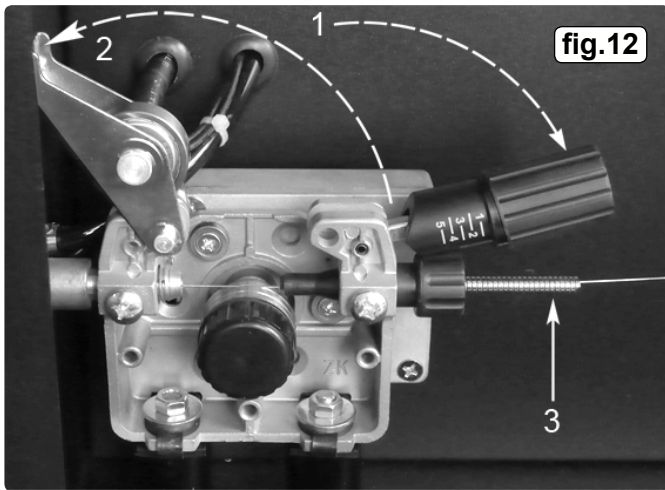

fig.12
- 3.9 **FEED WIRE THROUGH TO TORCH.** Referring to fig.12 open the wire feed mechanism by pushing the locking/wire tension knob (1) down to the right allowing the pressure roller carrier (2) to spring up revealing the feed roller. Ensure that the required feed groove (0.6 or 0.8) is in line with the wire path. See Section 3.12 on how to reverse or change the roller.
- 3.12.1 Referring to fig.12, open the wire feed mechanism by pushing the locking/wire tension knob (1) down to the right allowing the pressure roller carrier (2) to spring up revealing the feed roller.
- 6.5. **GAS CUP** The gas cup must also be kept clean and free from spatter. Build up of spatter inside the gas cup can cause a short circuit at the contact tip which will result in either the fuse blowing on the printed circuit card, or expensive machine repairs. To keep the contact tip free from spatter, we recommend the use of Sealey anti-spatter spray (MIG/722308) available from your Sealey Dealer. Refer to fig.12 and section 3.9 for removal and replacement.